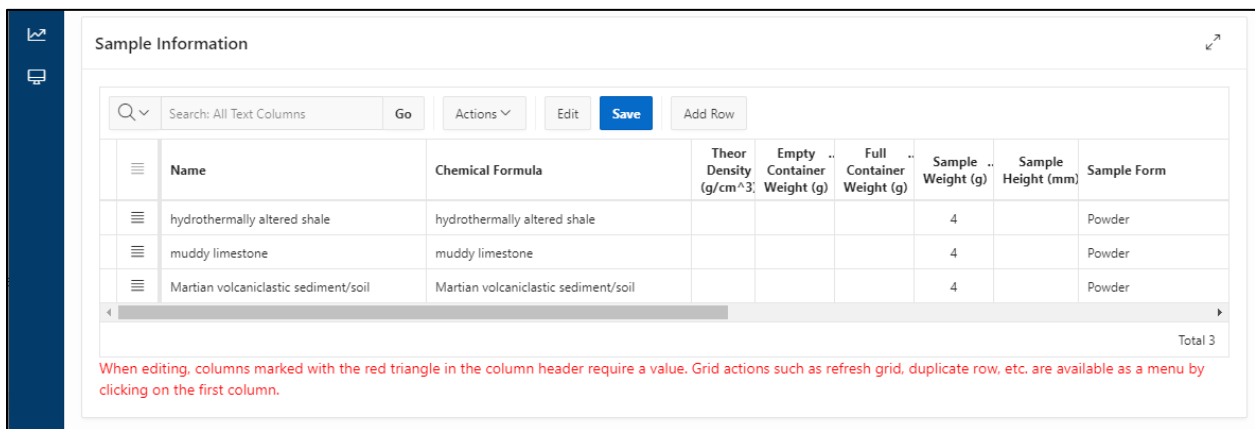

Figure 4. Middle box of the Sample Loading Sheet, where the sample information must be entered.
- In the middle box of the Sample Load Sheet, under Sample Information (Figure 4), the samples entered in your proposal will be listed, one row per sample. Each sample container should be on a separate row. If you need more rows (for example, if you have multiple samples with the same composition), click the “Add Row” button. To delete a row, click the ≡ icon in the first column and select “Delete Row”.
5. Once there is one row per sample, click the "Edit" button and input all the requested sample information in the table. Then click the blue "Save" button (Figure 4).